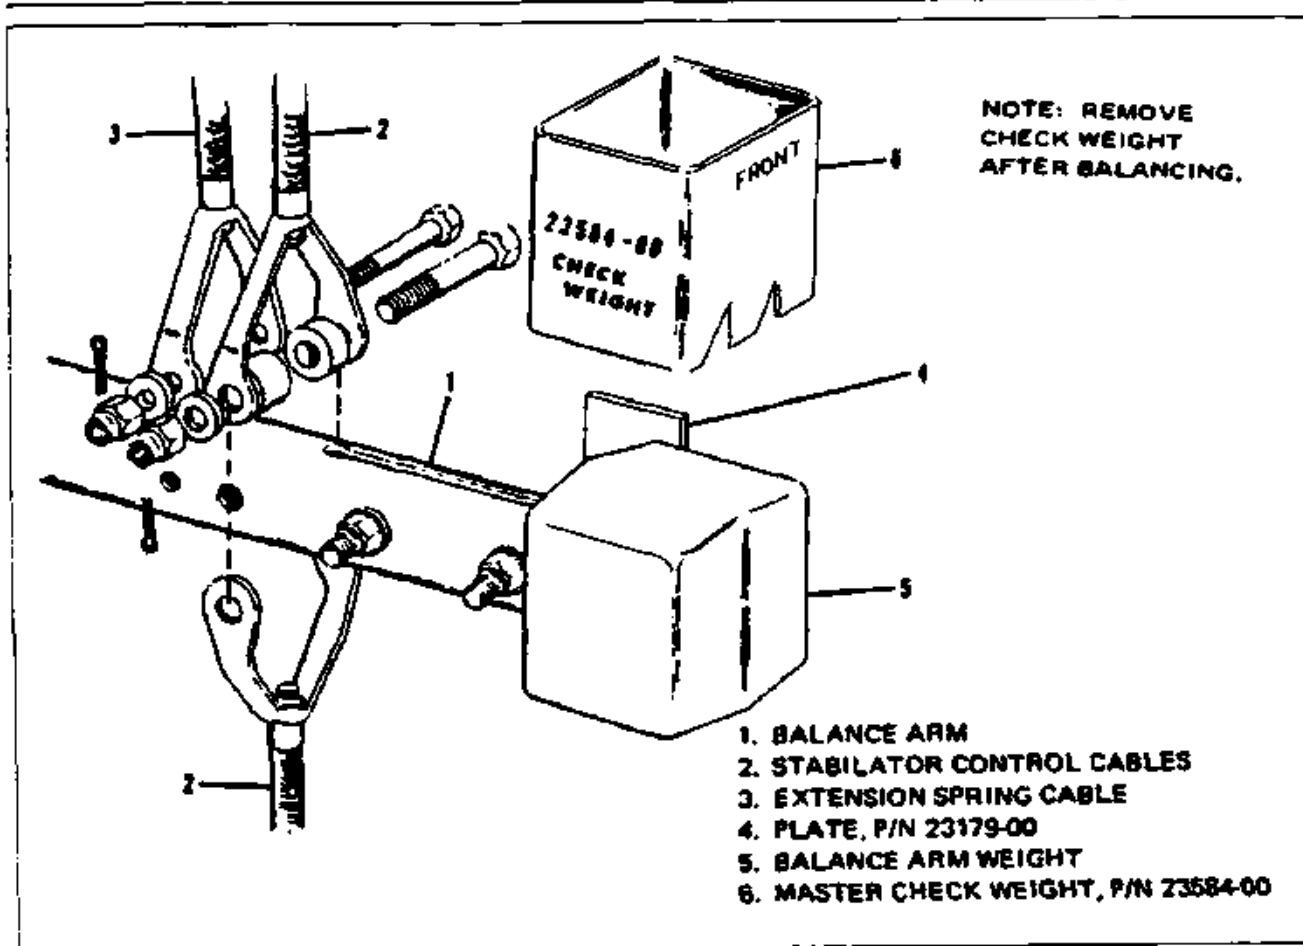

Figure 4-1. Balancing Stabilator, Serial Nos. 39-1 to 39-155 inclusive
**4-1. CHECKING AND BALANCING STABILATOR.** (Serial Nos. 39-1 to 39-155 inclusive.) (Refer to Figure 4-1.)
- b. Stabilator installation must be complete before balancing, including tabs and paint. Stabilator control cables (2 and 3) must be disconnected from stabilator balance arm (1) and tab actuator arm must be disconnected from stabilator tab horn during balancing. Hardware used to connect the extension spring cable and stabilator control cables should be removed. Hardware holding balance arm weight in place should be installed. A small piece of tape should be used to hold tabs neutral with stabilator. It is very important to have the stabilator free to rotate with a minimum of frictional resistance.